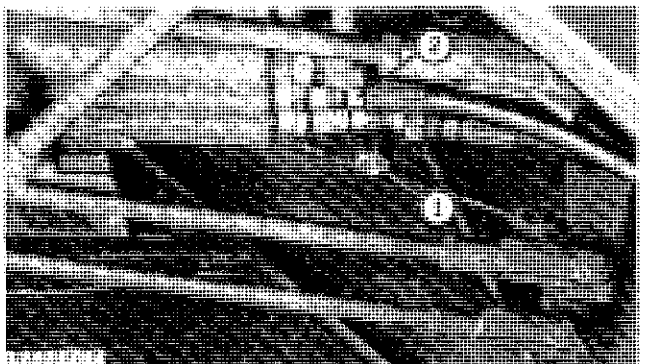

Fig. 18-Changing Valve Connections
1. Remove cap from right-hand outlet (Fig. 18) of main control valve.